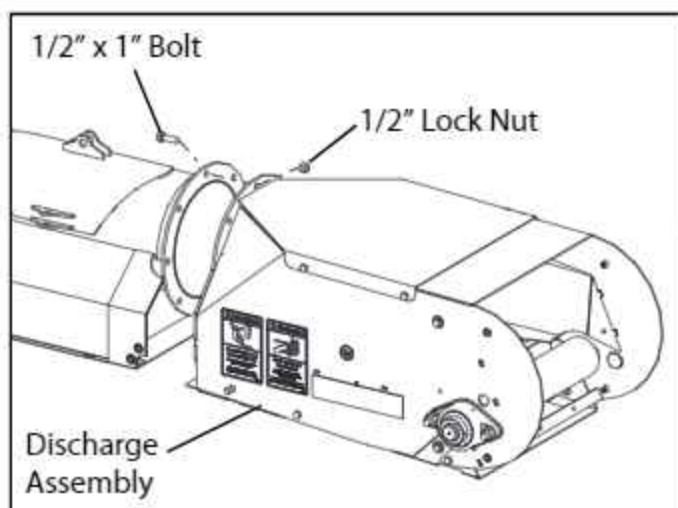

FIG. 3-17. Discharge Installation
1. Attach the Discharge to the Upper Tube using eight  $\frac{1}{2}$ " x 1" bolts and lock nuts, as shown in Fig. 3-17. Make sure the tube joint is aligned and smooth, as shown in Fig. 3-5.